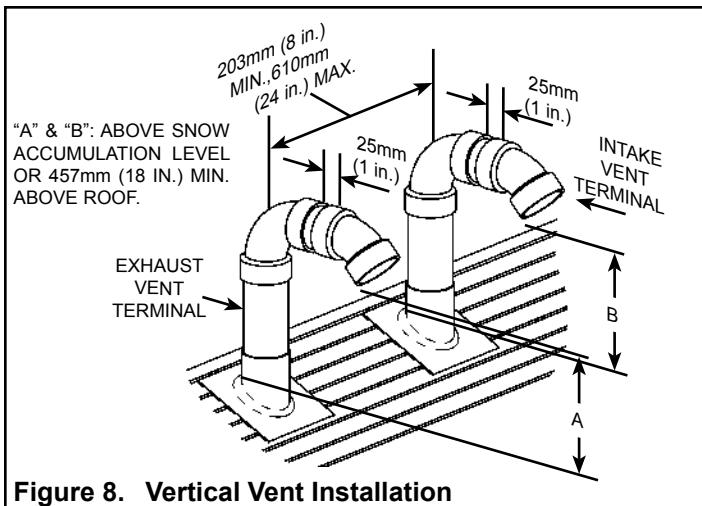

Figure 8. Vertical Vent Installation
**Important:** When terminating the vents through a roof, the following specifications pertaining to terminal location must be followed (see Figure 8).